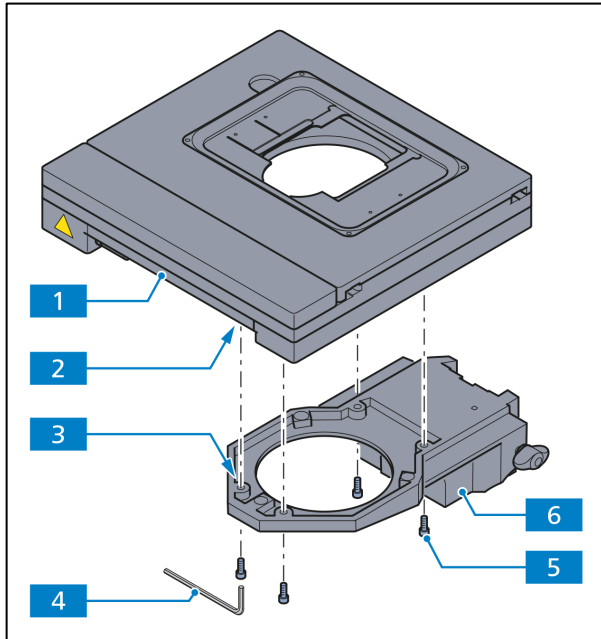

Fig. 3-19 Changing the motorized mechanical stage
- Turn the stage (Fig. 3-19/1) and stage carrier (Fig. 3-19/6) upside down and remove the four mounting screws (Fig. 3-19/5) with the Allen wrench (AF 3) (Fig. 3-19/4).
- Turn stage (Fig. 3-19/1) and stage carrier (Fig. 3-19/6) upside down carefully and match the threaded holes in the bottom of the stage (Fig. 3-19/2) to the corresponding holes in the carrier (Fig. 3-19/3).
- Insert the four mounting screws (Fig. 3-19/5) into the holes.